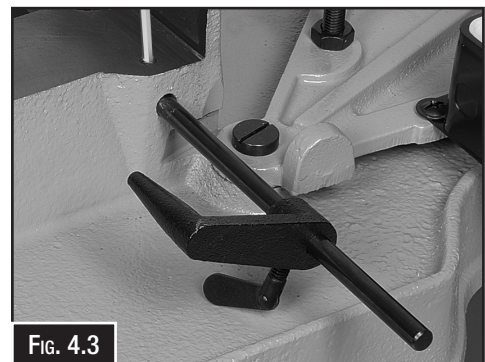

FIG. 4.3
4. Install the length stop shaft into side of band saw, then lock it in place by using a Hex key to tighten the set screw. (Fig. 4.3)